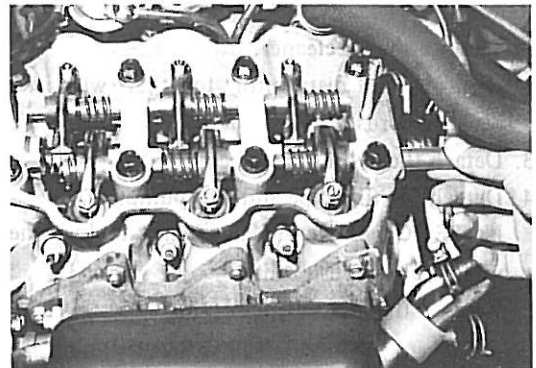

Fig. 3-115 Installing Valve Rocker Shaft
1. Insert the valve rocker shaft into position, while setting the valve rocker arms and compression spring as shown in Fig. 3-115.